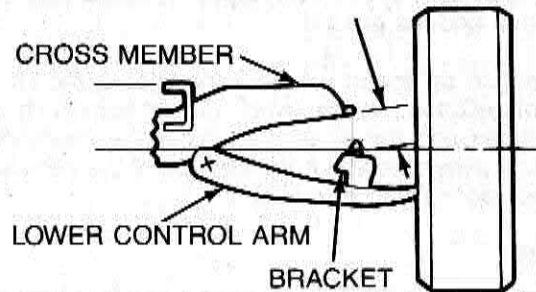

Figure 3-2 — Ride Height Measurement
5. Check for a difference in the ride height between right and left sides of the vehicle. (See Figure 3-2.)
The caster, camber and toe-in specifications for both the G- and P-Series chassis are shown in Figure 3-3. The caster specifications will vary depending on the ride height measurement shown in Figure 3-2. This measurement is commonly referred to as either Dimension "A" or Dimension "BC" depending upon your reference source. This dimension is also affected by rear axle imbalance of weight (left to right). See Rear Suspension section of this manual for further information.